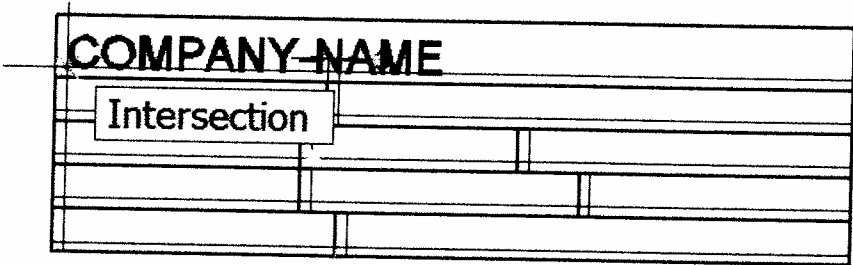

Figure 6-6b
5. Click at the lower left corner of the thin lines intersection in the topmost cell, Figure 6-6b.
6. Repeat steps #2 to #5 to create the remaining attributes. Set the text height to 6, Figure 6-6b.